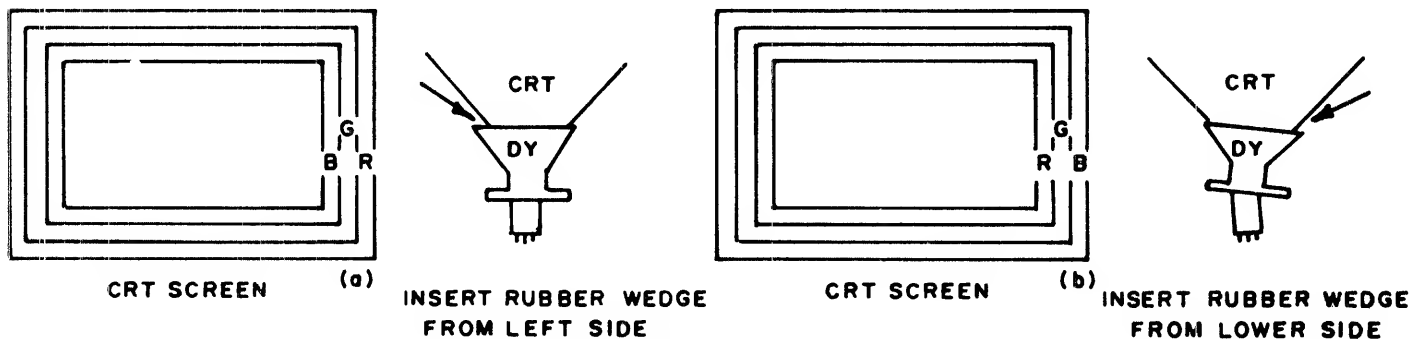

FIGURE 9
- 2) Tilting the angle of the yoke sideways adjusts the parallel convergence of both horizontal and vertical lines at the edges of the screen. See Fig. 9 (a) and (b).